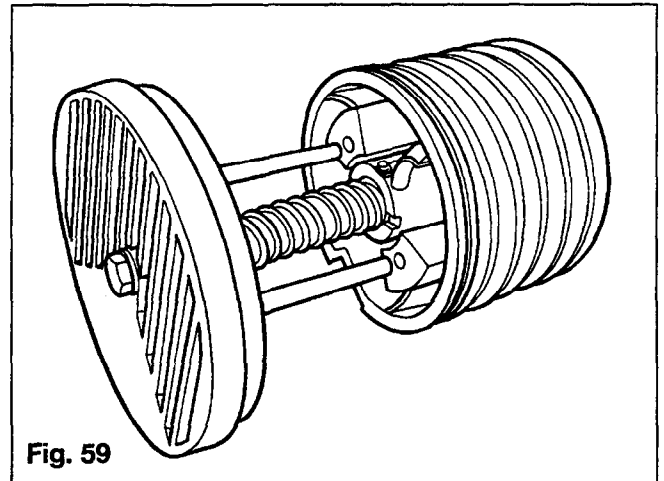

Fig. 59
1. Align and insert the brake rods into the holes in the reel (Figure 59). The anti-rotation pins in the end cover must line up with slots in the ball screw (Figure 60) and protrude 1/8" to 5/32" from the inside surface of the end cover. Insert the shorter bolt through the end cover and thread it into the ball screw. Hand tighten the bolt until the ball screw is held firmly against the end cover. Refer to Figure 60.